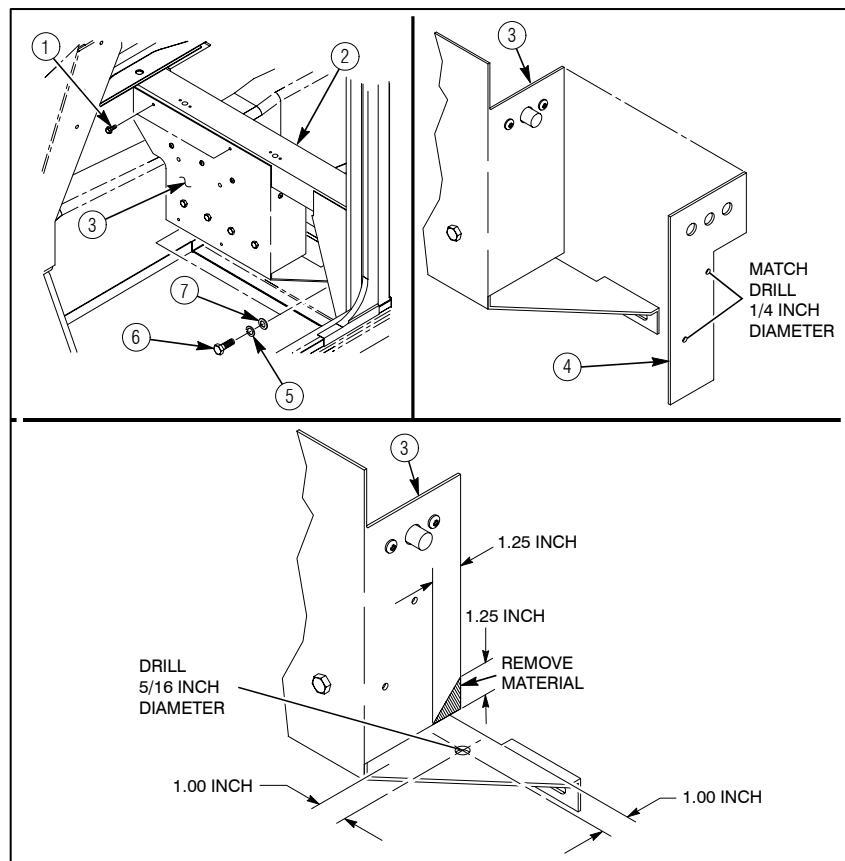

Figure 27
11. Remove four capscrews, two on top (1), two on bottom (6), lockwashers (5), washers (7), and right side B-beam panel (3) from B-beam (2) as shown in figure 27. Discard lockwashers (5).
12. Position 6432544-01M1 fuse locator template (4) on side of B-beam panel (3), clamp in place, and match drill two 1/4 inch diameter holes through B-beam panel (3). Remove fuse locator template (4) from B-beam panel (3). Refer to figure 27.
13. Locate and drill one 5/16 inch diameter hole in B-beam panel (3) as shown in figure 27 (pg 25).
14. Remove material from lower corner on side of B-beam panel (3) as shown in figure 27 (pg.25).